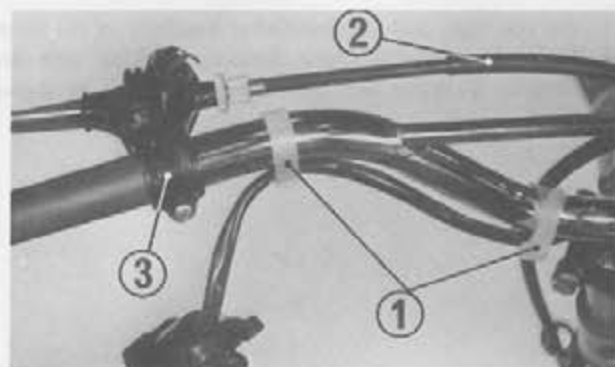

Fig. 4-34 (1) Wire bands (2) Clutch cable (3) Handlebar bracket
7. Remove the wire bands as shown in Fig. 4-34.